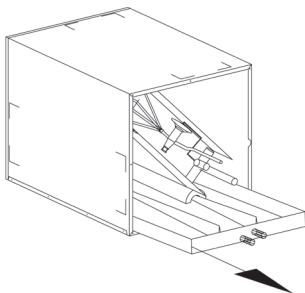

Fig. 05a
- 2) Remove drain pan by sliding it out from the bottom of the coil casing, ensuring that the foam air dam is also removed. (Figs. 05a, 05b)